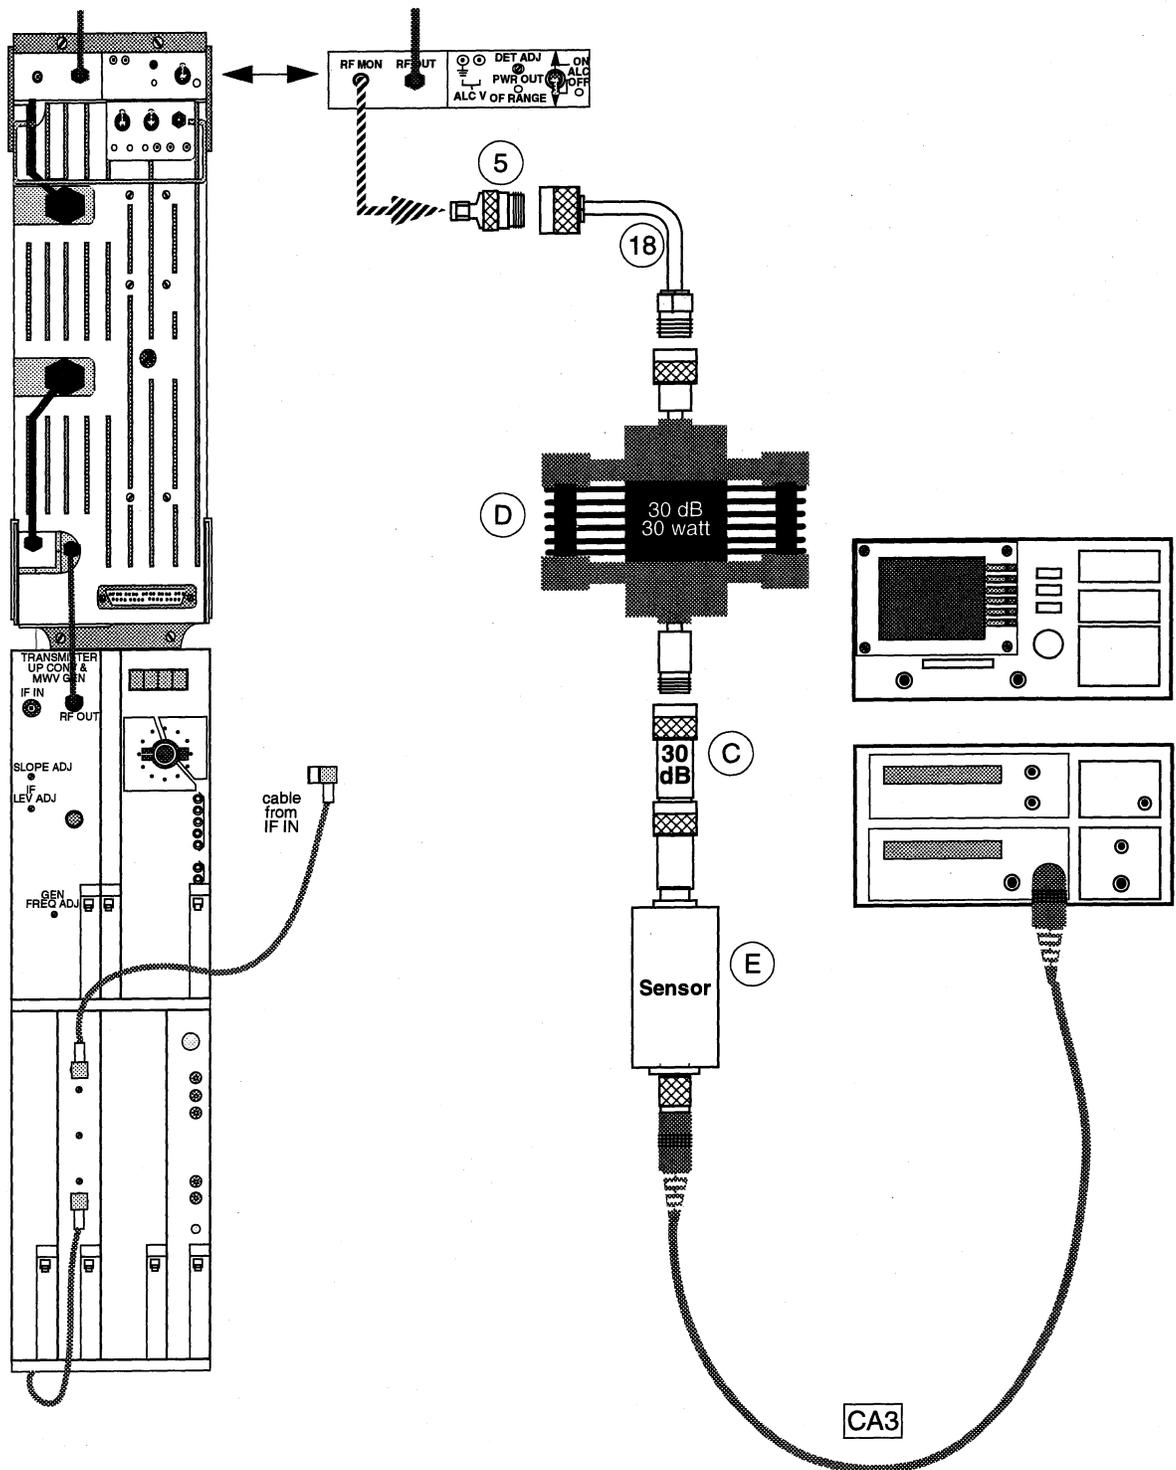

Figure 31. RF MON Power Measurement—TWT
- 10 Connect the test equipment as shown in Figure 31.